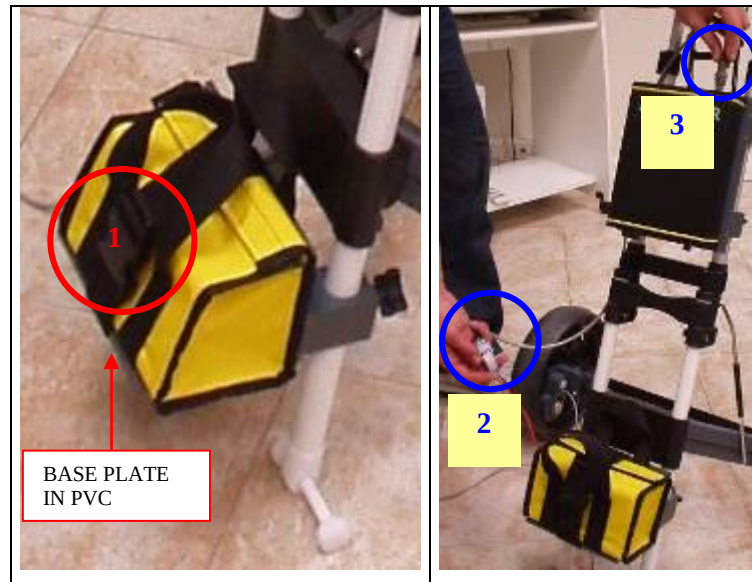

Fig. 4.4 – Battery and cabling support
- Place the battery in its yellow bag (Fig. 4.4).
- Place the bag on the PVC base plate and fix the bag to the support with the strap provided (1).
- Connect the power supply cable to the BATTERY port on the Control Unit (3) and to the white connector to link it to the battery(2).